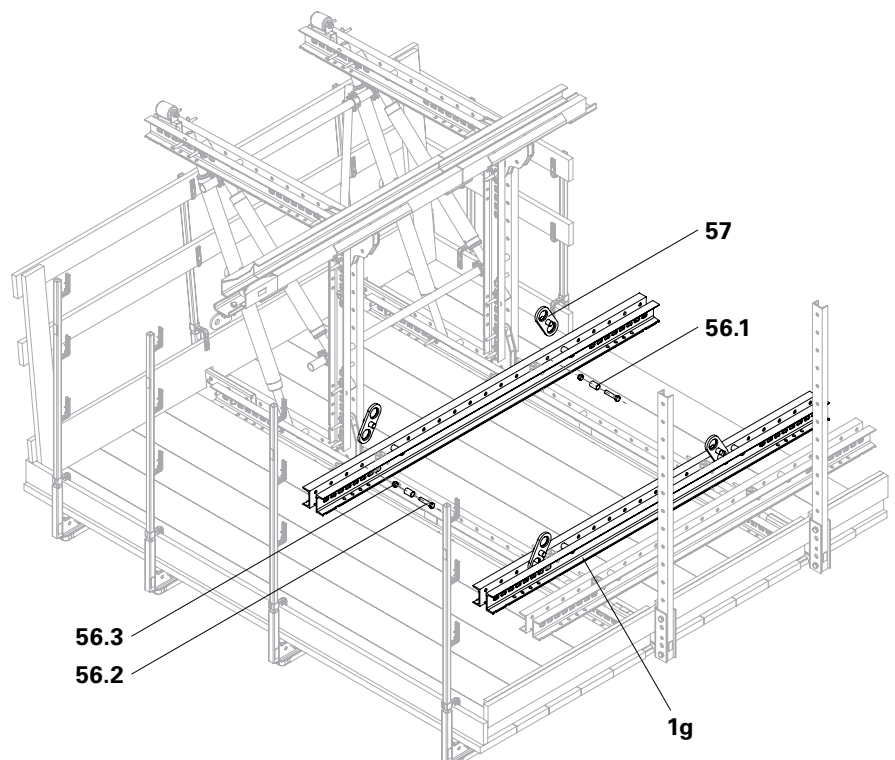

Fig. B7.03
For ballasting purposes, a third Steel Waler Universal SRU U120 must be mounted as a storage surface (Fig. B7.03).
3. Insert the sleeve (56.1) of the Spacer for the Platform Beam BR (56) through the Crane Eye BR-2 2.5 t (57).
4. Slide the Crane Eye BR-2 2.5 t (57) and sleeve into the Steel Waler Universal SRU U120 (1g) and secure with the bolt (56.2) and nut (56.3). (Fig. B7.03)